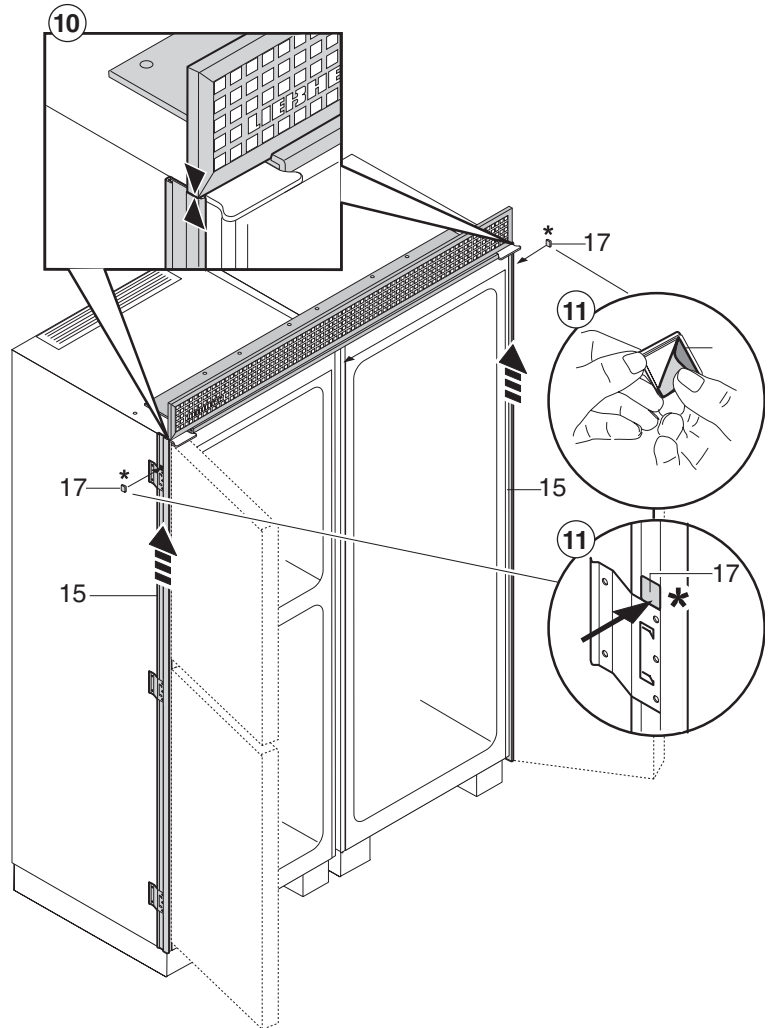

Figure 28
10. **Figures 28, 29:** Slide the side installation frames (15) upward until they are in contact with the underside of the ventilation grille, **Figure 28**.
11. Secure the side frames with the adhesive section (17) to prevent them from sliding down. Remove the protective film and place the adhesive sections over the upper brackets.